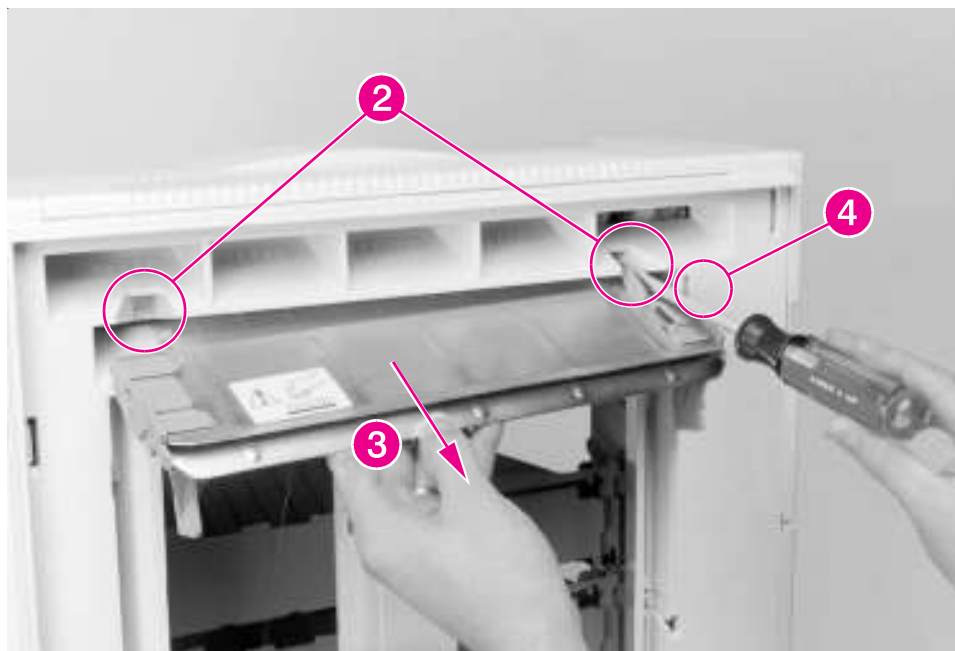

Figure 6-160 8-bin Mailbox Input Paper Guide (2 of 2)
- 4 Use a flat-blade screwdriver to release the retaining tabs that secure the Input Paper Guide to the upper-right side of the 8-bin Mailbox (Figure 6-160, callout 2).
- 1 Reroute the ground wire through its access hole (Figure 6-160, callout 4).